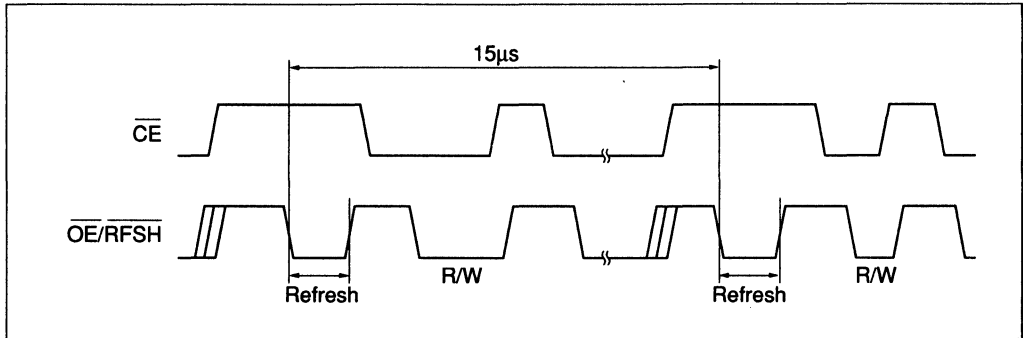

Figure 2-5 Automatic Refresh
**Automatic refresh:** This mode refreshes data with an internal refresh address which is generated by setting  $\overline{OE}/\overline{RFSH}$  low with  $\overline{CE}$  high. It is not required to input a refresh address from address pins since it is generated internally. Figure 2-5 shows the timing chart for distributed automatic refresh.